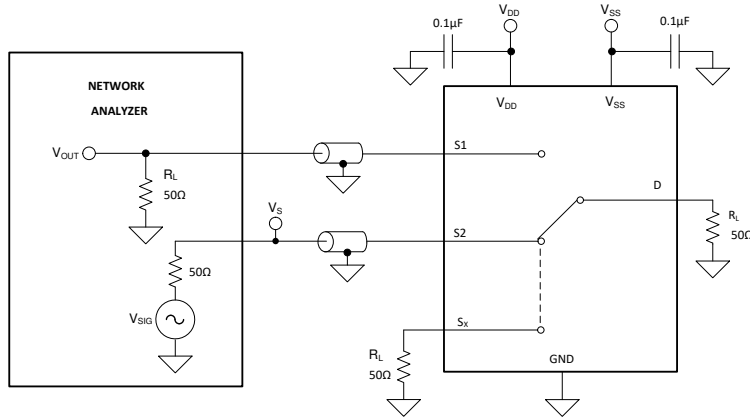

**Figure 7-8. Off Isolation Measurement Setup**
Off isolation is defined as the ratio of the signal at the drain pin (D) of the device when a signal is applied to the source pin ( $S_x$ ) of an off-channel. Figure 7-8 shows the setup used to measure off isolation. Use the off isolation equation to compute off isolation.